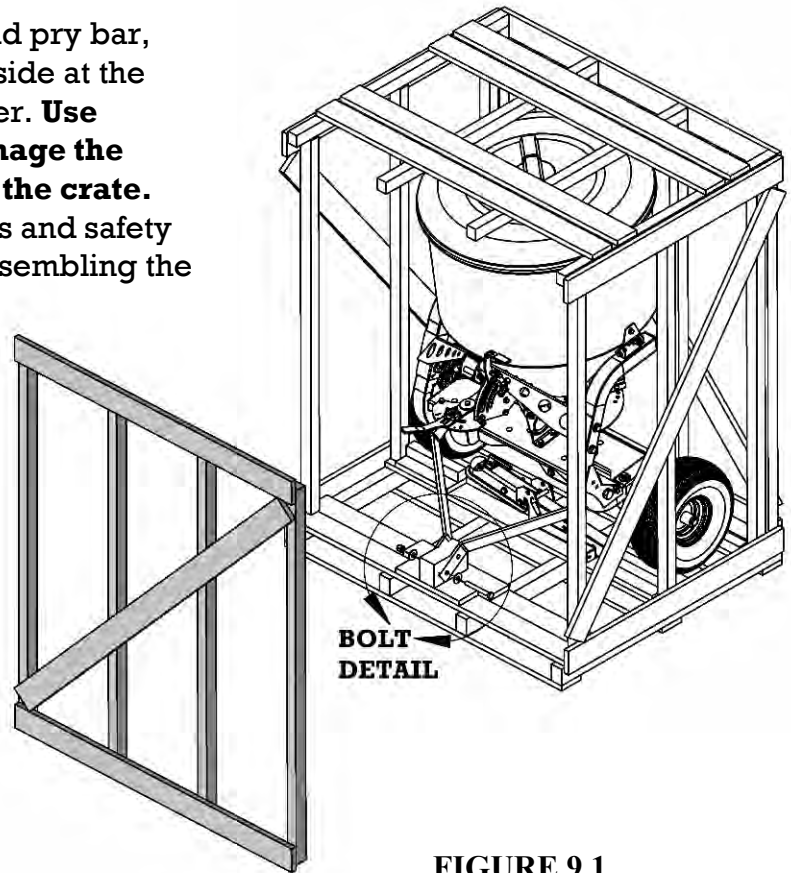

FIGURE 9.1
1. Using the required tools, remove the front panel of the crate. The front panel is the side of the crate that the hitch arms are facing as shown in **FIGURE 9.1**. This is the only side that needs to be removed for uncrating the unit. The entire crate can be disassembled if you choose, but it is not required for assembly.